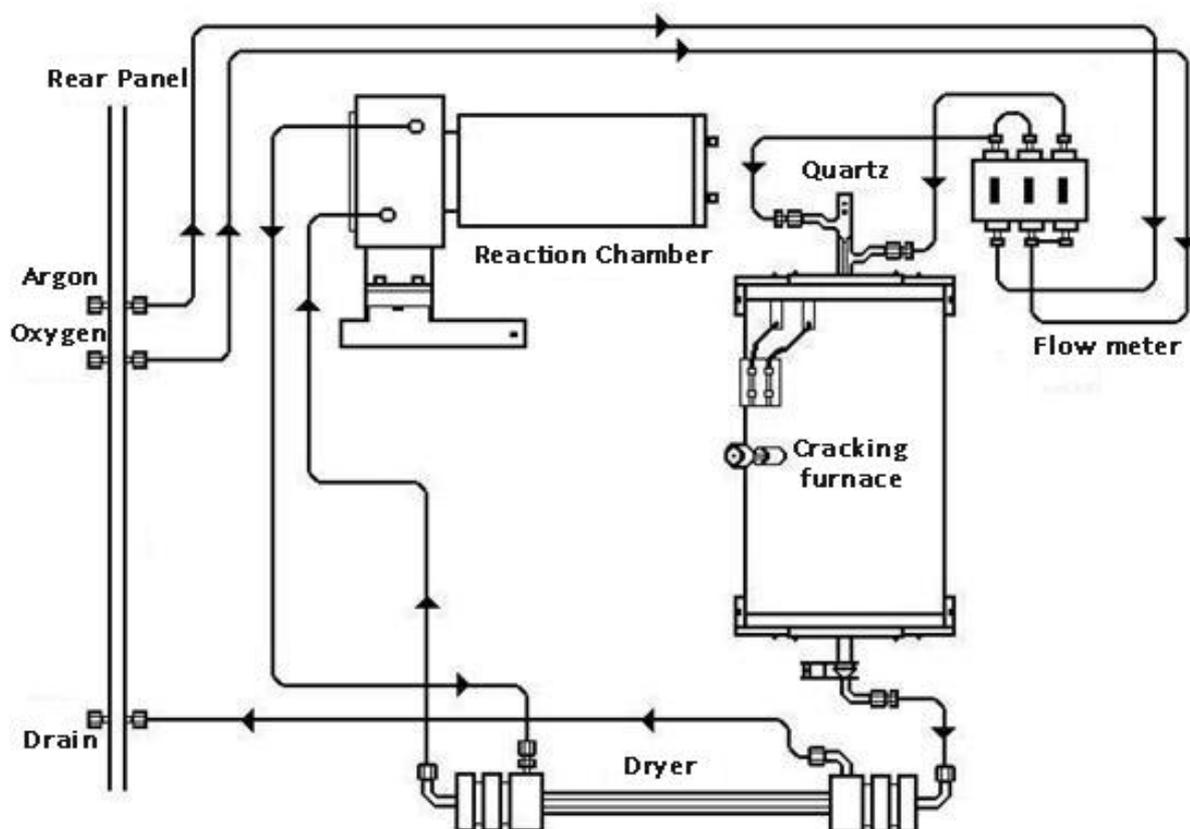

Fig.5-2
(IV) Gas installation and leak check (Fig.5-2)